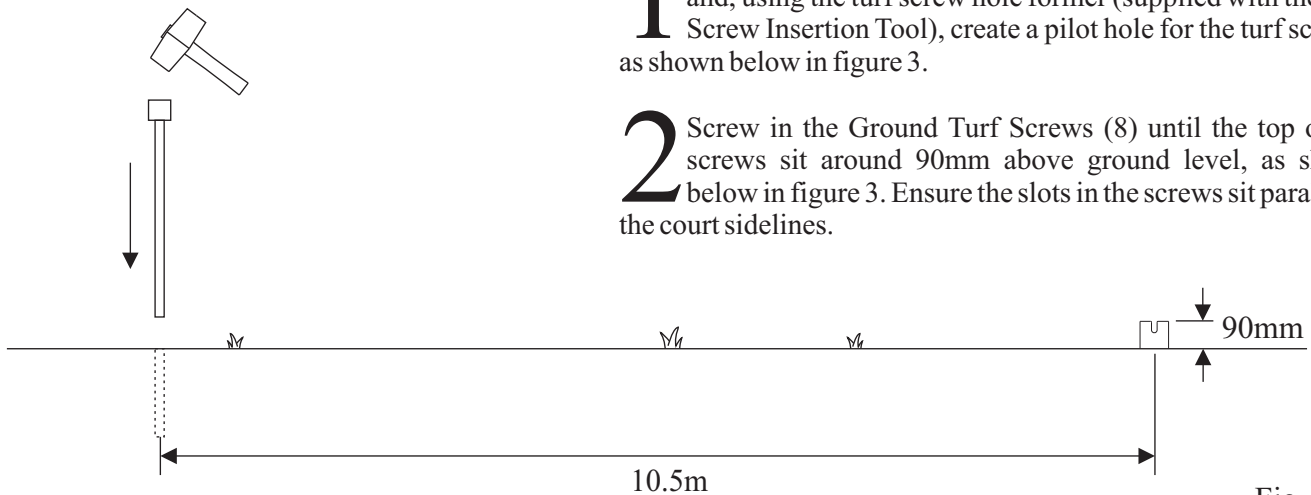

Fig. 3
1 Using the Layout Guide Rope, mark out 10.5m post centres and, using the turf screw hole former (supplied with the Turf Screw Insertion Tool), create a pilot hole for the turf screws, as shown below in figure 3.
2 Screw in the Ground Turf Screws (8) until the top of the screws sit around 90mm above ground level, as shown below in figure 3. Ensure the slots in the screws sit parallel to the court sidelines.